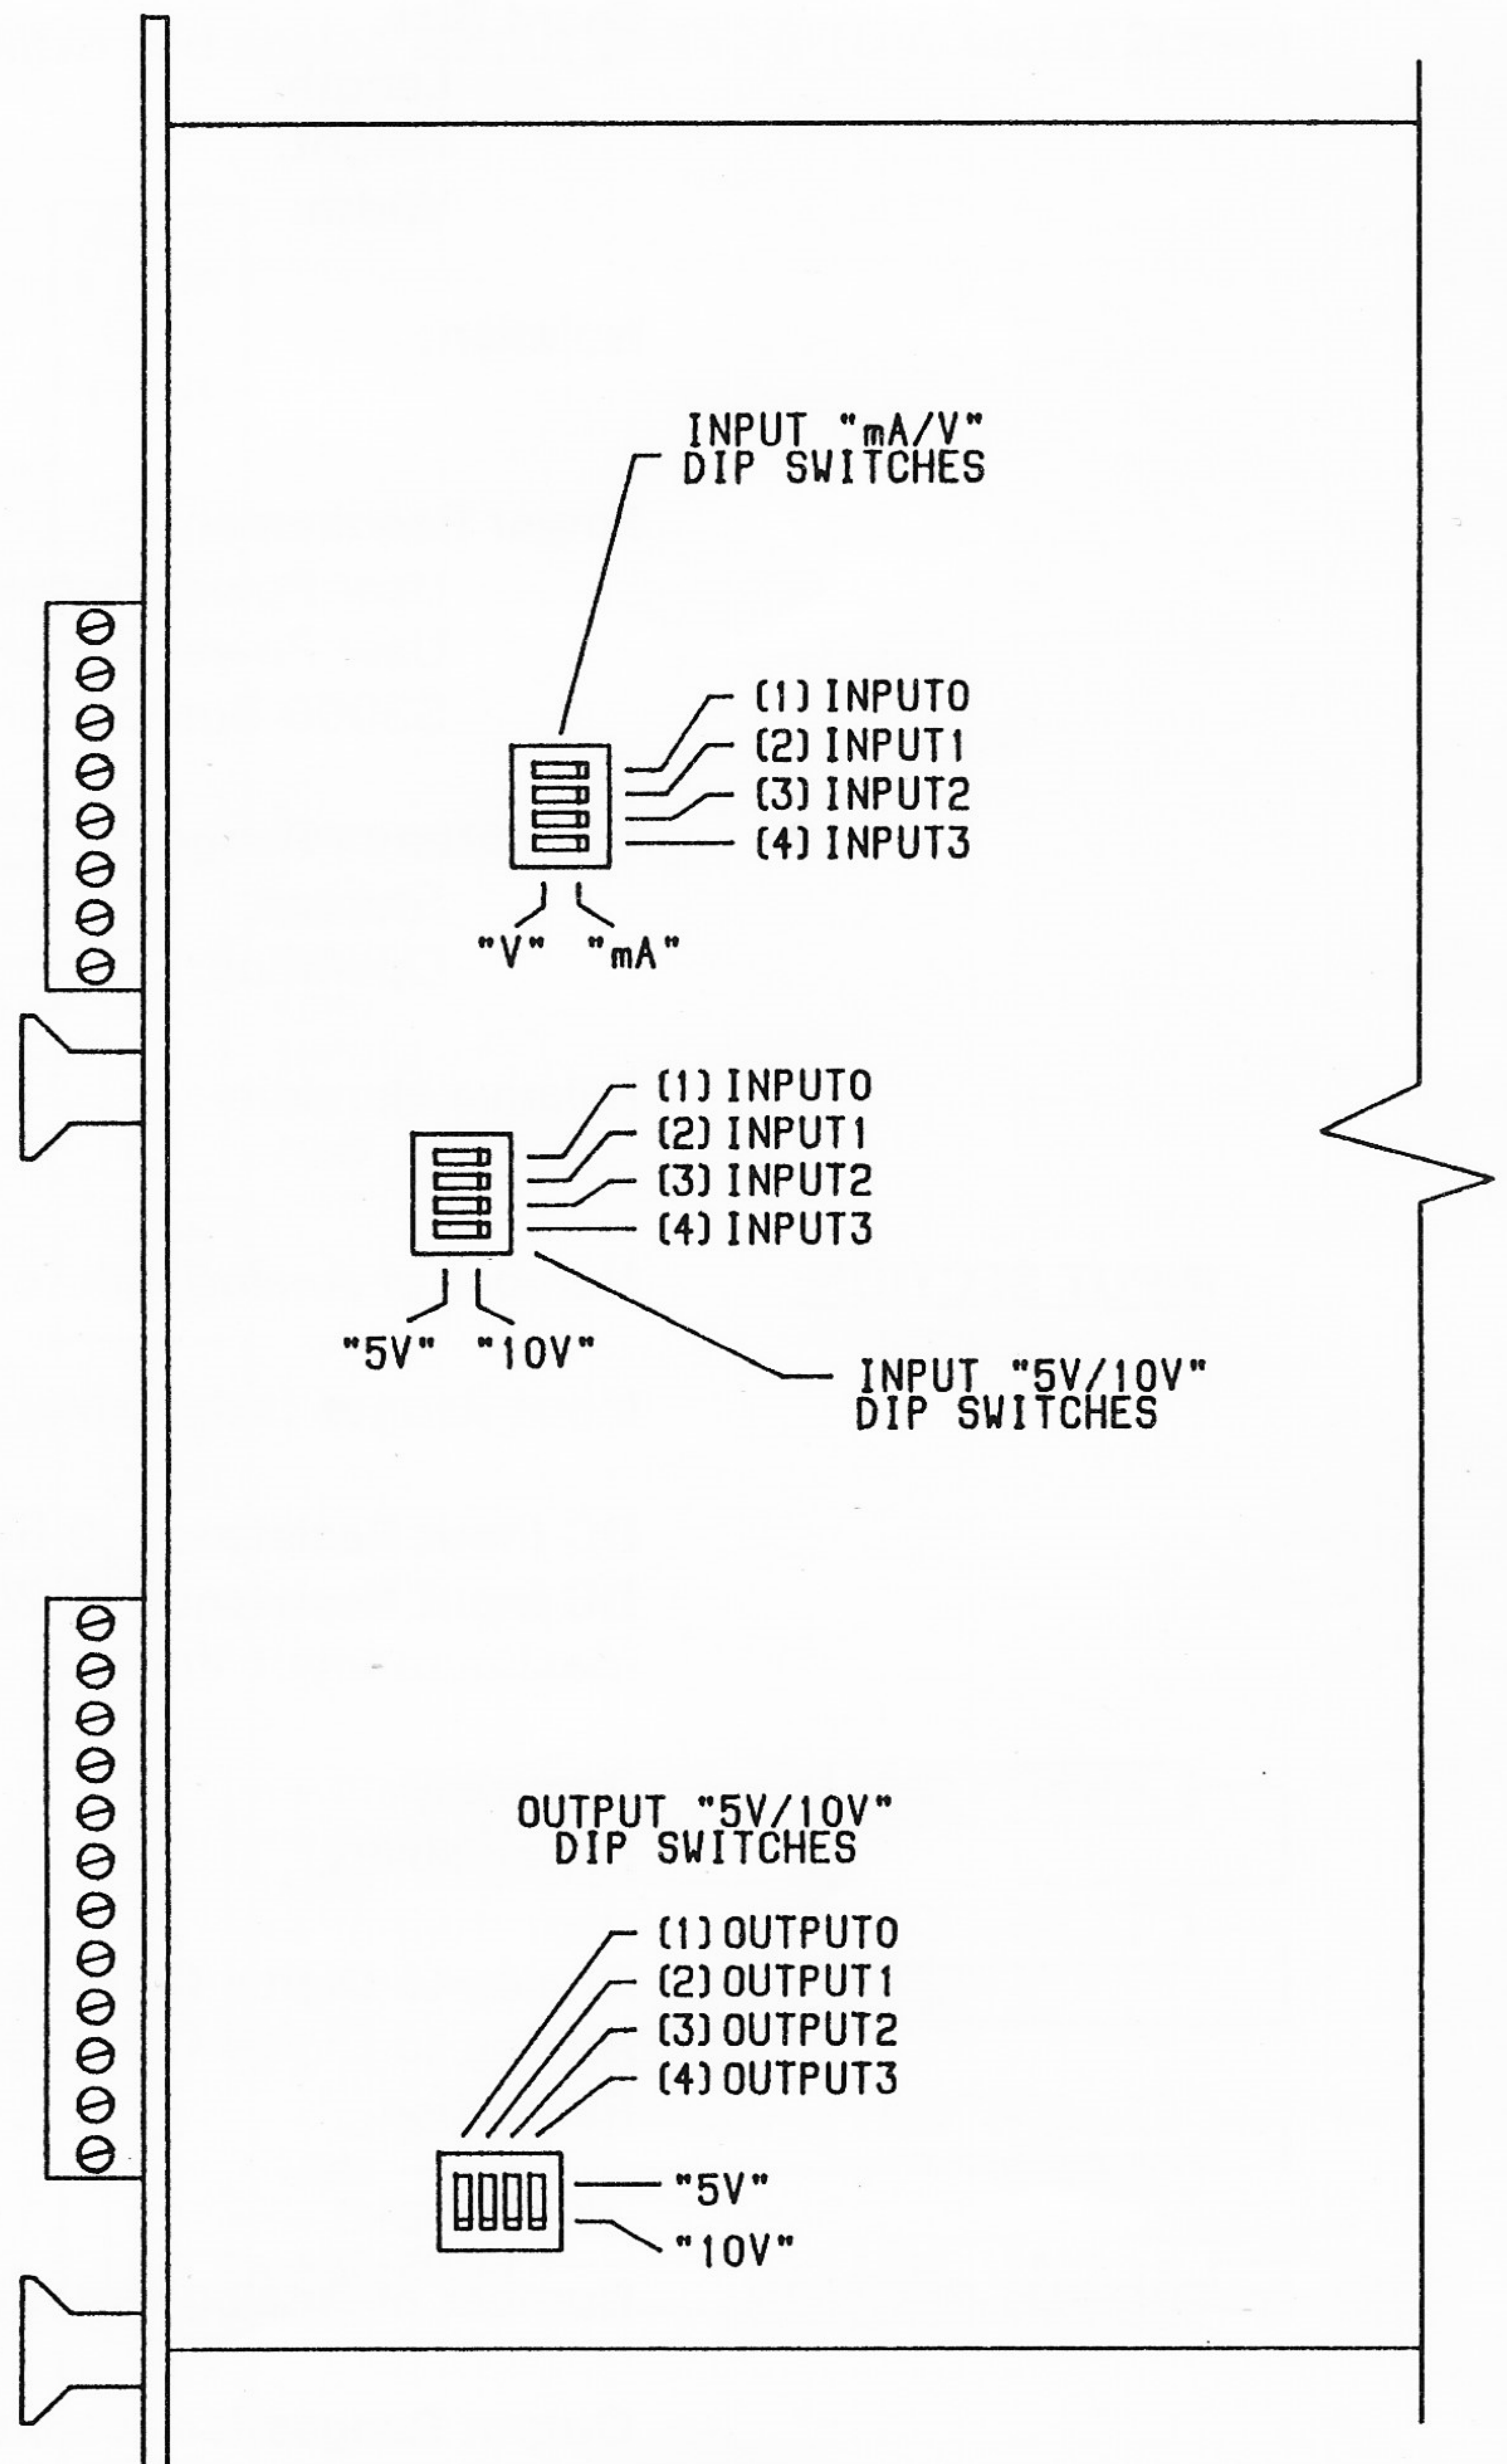

FIGURE 1
- 1) Set the input "mA/V" dip switches for each input to either the "mA" position for 0-20mA range or to the "V" position for either the 0-5V or 0-10V range (see figure 1).
- 2) For inputs selected as "V" in the previous step, set the input "5V/10V" dip switches to either the "5V" position for the 0-5V range or the "10V" position for the 0-10V range (see figure 1).
- 3) For inputs selected as "mA" in step (1), set the input "5V/10V" dip switches to the "5V" position (see figure 1).